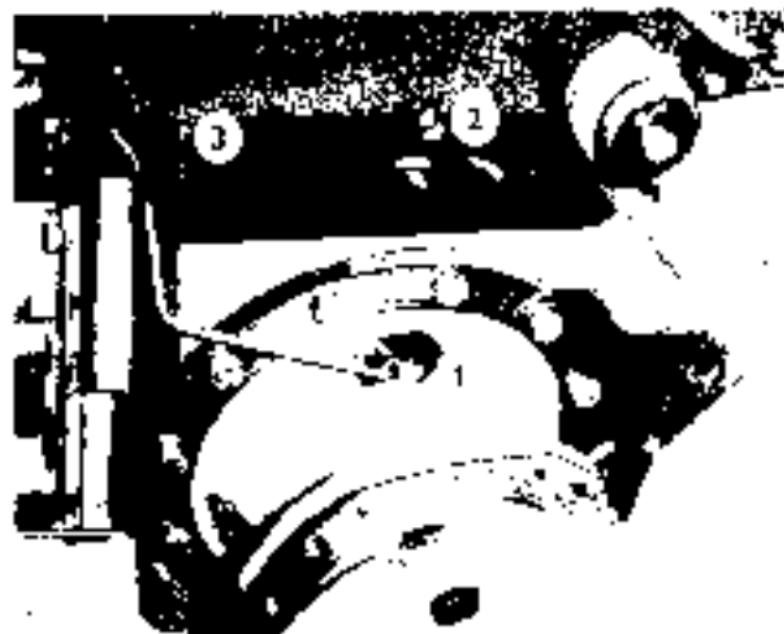

Fig. 34
1. Unscrew the bolt using hand guard (Fig. 34;3) and turn the guard.
3. Loosen lock nut (Fig. 34;2) and tighten band backs onto brake drum by means of a bottom nut.